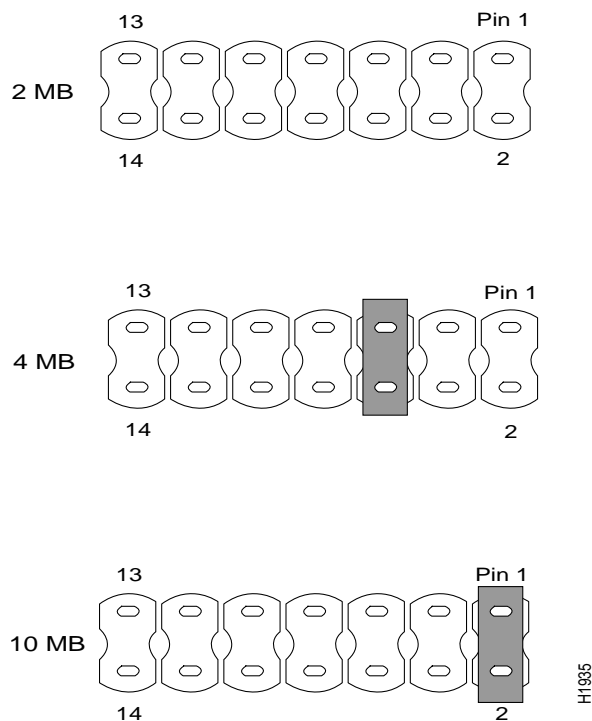

Figure 7 J3 Jumper Settings
Step 1 Locate jumper array J3, shown in Figure 1. Depending on the amount of RAM now in your system, install a jumper as follows (see Figure 7 for jumper settings):
- Check the jumper on J3; there should be a jumper installed on pins 5 and 6 for 4 MB of RAM (third pair from the right), or on pins 1 and 2 for 10 MB of RAM (far right pair). These settings are shown in Figure 7.